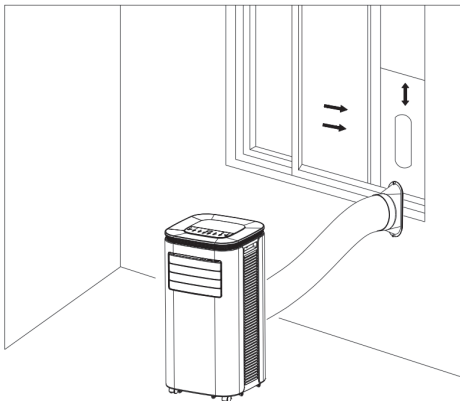
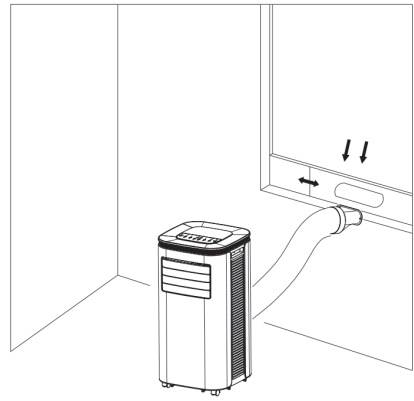

Fig. 5
Fig. 6
- Elongate the exhaust pipe and snap the flat end of the exhaust pipe joints into the hole of the window sealing plate assembly (as shown in Fig.5 and Fig.6).